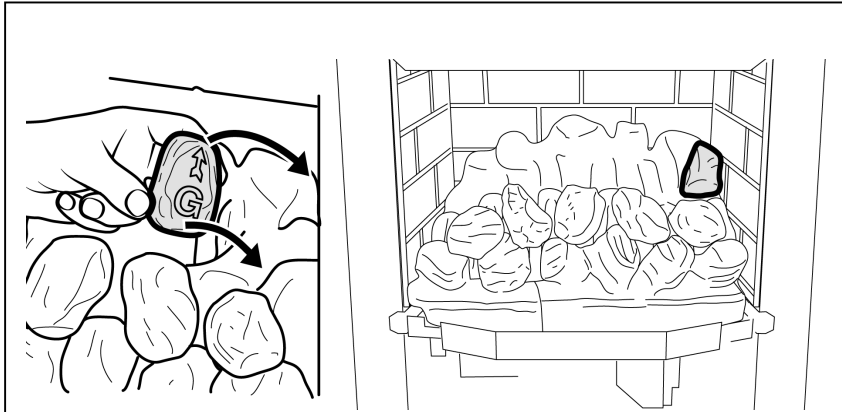

Figure 12. Third row "Coal G"
17. Hold coal 'G' upright with the arrow pointing to the top. Locate coal 'G' as shown in figure 12.